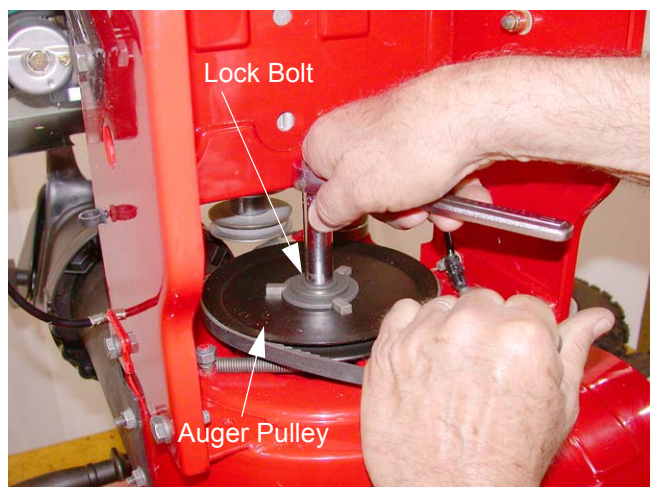

Figure 10.1
- 10.1. Using a 1/2" socket and ratchet, remove the lock bolt securing the auger pulley to the auger gear-box drive shaft. See Figure 10.1.